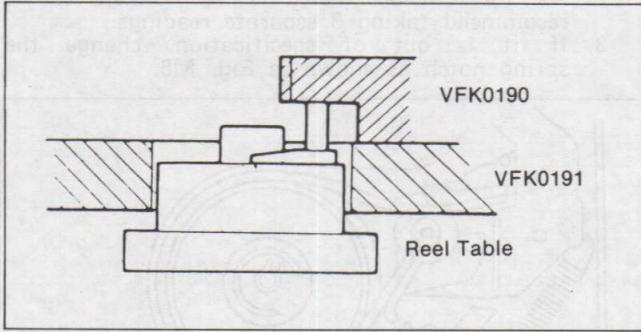

Fig. M8 Adjustment of Reel Table Height-(2)
4. Measure the meter indication of top surface of reel table as shown in Fig. M8. And then perform the same measurement and confirmation for the other reel table.